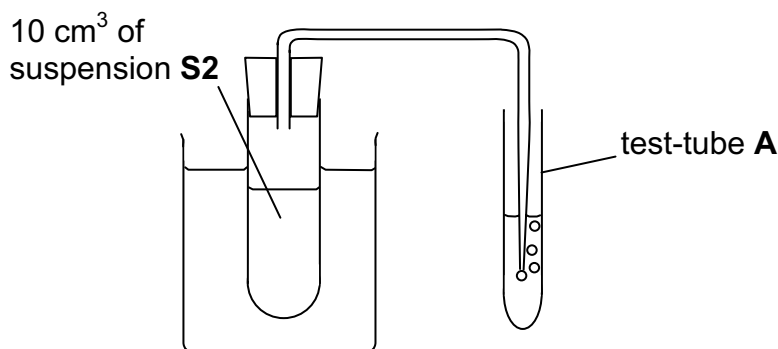

Fig 1.1
- Place test-tube **A** so that the end of the delivery tube is near the bottom of the water in test-tube **A**, as shown in Fig 1.1.